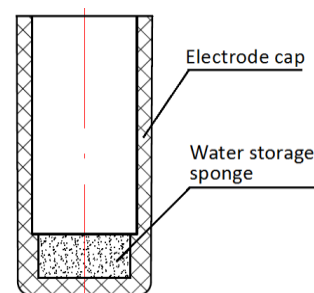

Figure-13
7.7.2 At the top of the electrode there is a water sponge (see figure-13), when water sponge is dry up, please refill with distilled water to keep it wet (not too much). Keep in wet condition helps the electrode's fast response time. Electrode may react slowly if kept dry for a long period. Submerge it in 12.88Ms buffer solution for 5 to 10 minutes or in tap water for 1 to 2 hours to renew it. Use distilled water to clean electrode after use.